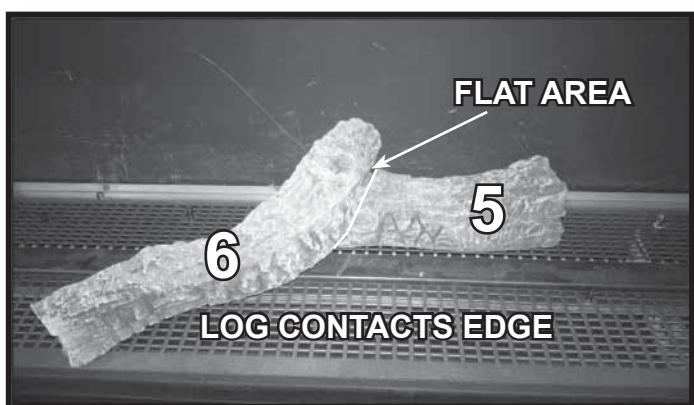

Figure 11. Log #5 (SRV2331-704 and Log #6 (2331-703)
17. **LOG #6 (SRV2331-703):** Install Log # 6. Place log so that the larger end without the fork is resting on the flat area on Log #5. The opposite end should be placed so that it contact the edge of the media tray. When properly placed, this log is firm in its position. If it seems to simply “balance” rather than rest, continue to adjust it. Log #6 should not contact the inside back of the appliance on a single-sided model, or the glass on a see through model). See Figure 11.